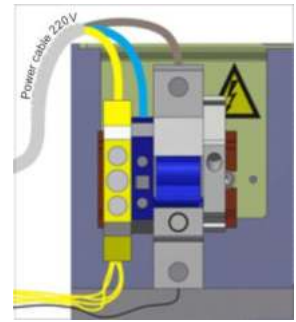
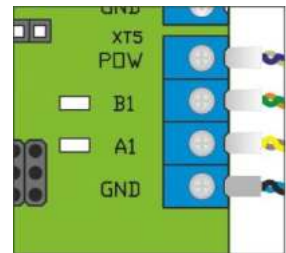

Fig.21– Connection of power supply cable
Fig.22– Connection the communication cable with control panel to terminals
a) Power supply cable ~220 V to be connected (Fig.21):
- Neutral (N) to be connected to terminal ~220V(N);
- Earth (PE) to be connected to earthing terminal (PE).
b) Control desk link cable to be connected to terminals (Fig.22):